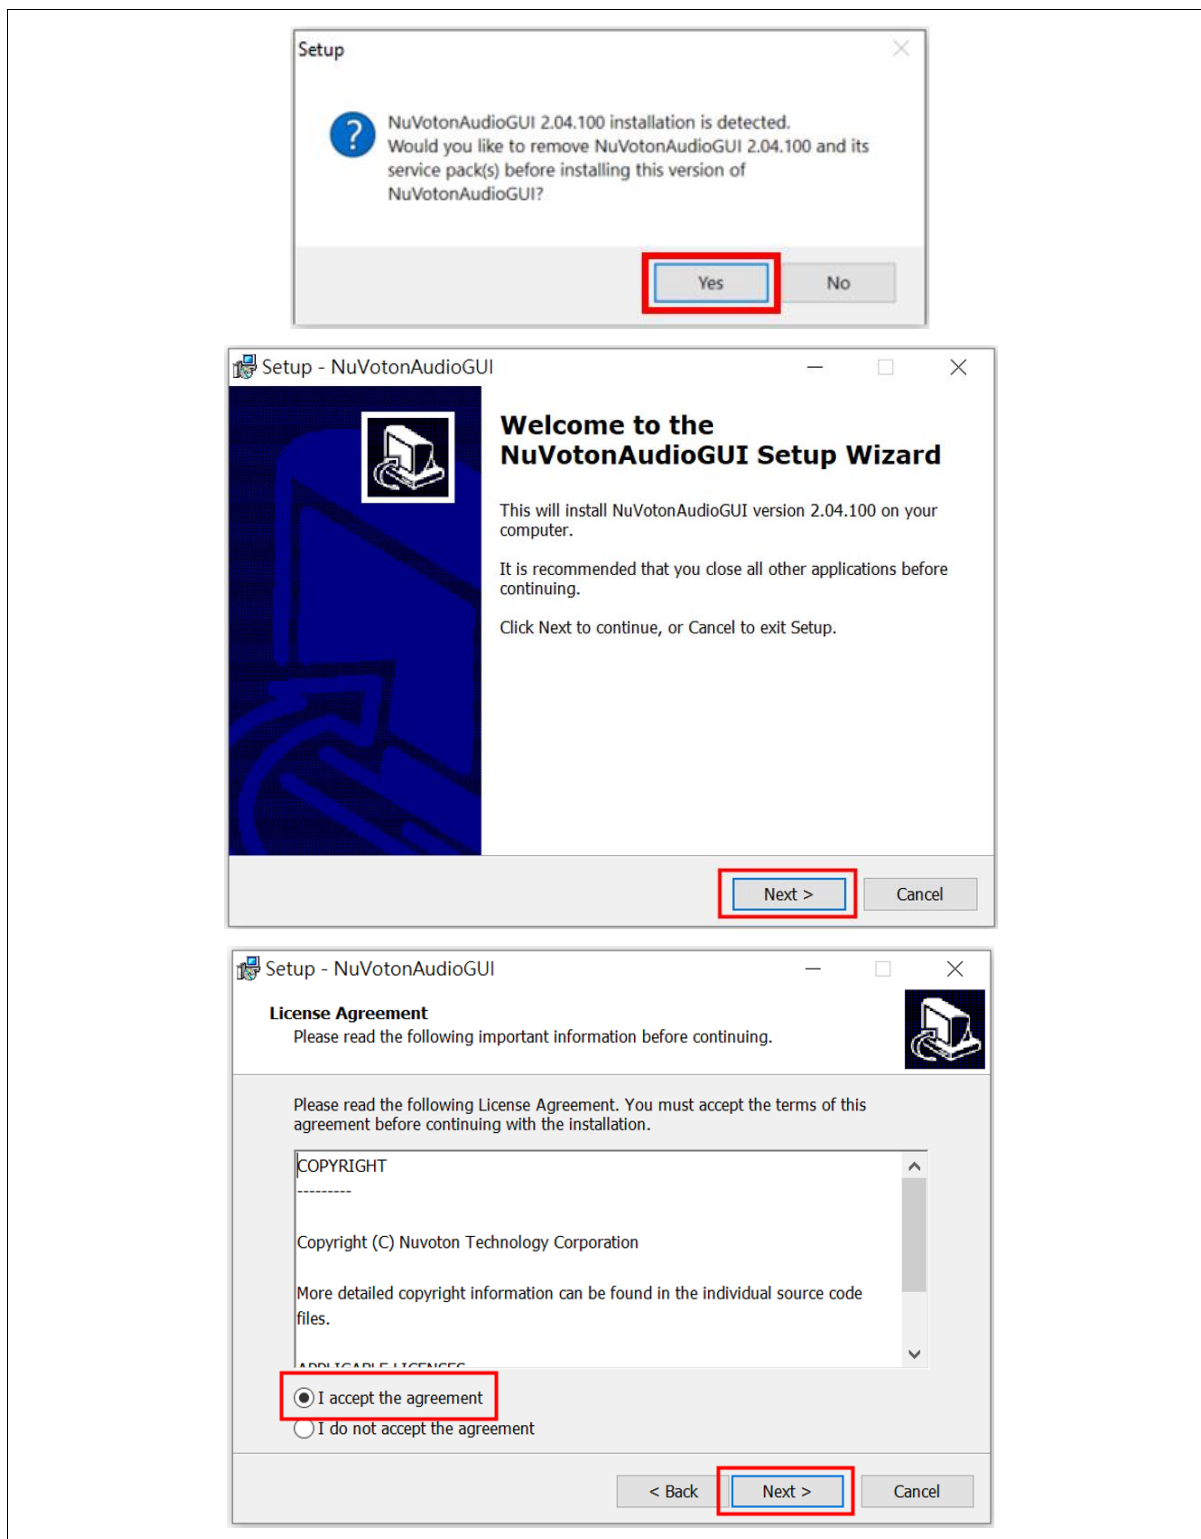
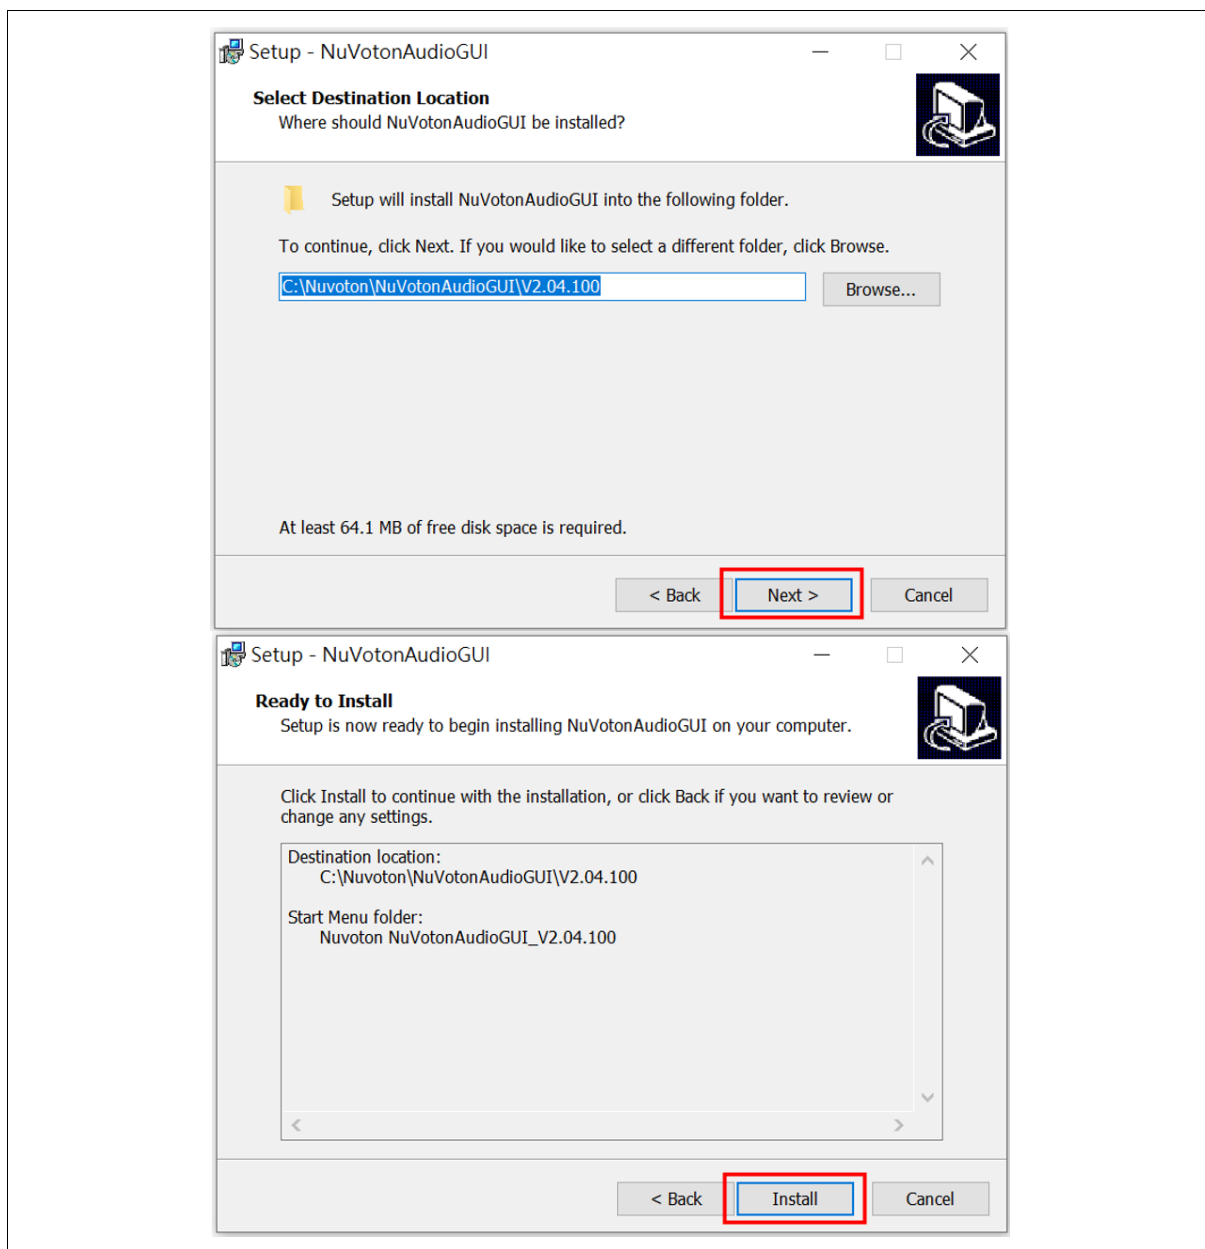

Figure 3-2 NuvotonAudioGUI Installation Step (2)
Figure 3-3 NuvotonAudioGUI Installation Step (3)
2. Install the NuvotonAudioGUI. The installation steps are shown in Figure 3-2 and Figure 3-3.